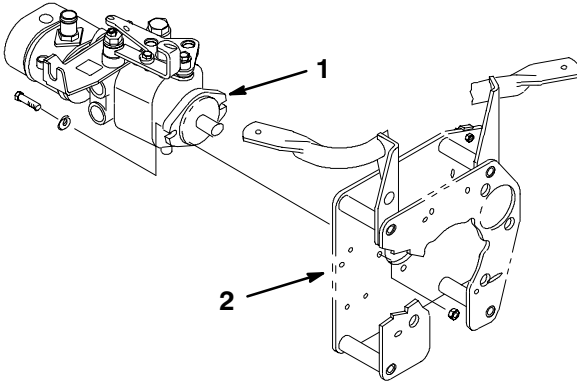

Figure 3
15. Remove left capscrew, washer and nut securing pump flange to backing plate (Fig. 3).
16. Install new M10 x 1.75 x 40 capscrew, washer and nut (Fig. 3). Tighten securely.
17. Remove right capscrew, washer and nut securing pump flange to backing plate (Fig. 3).
18. Install new M10 x 1.75 x 40 capscrew, washer and nut (Fig. 3). Tighten securely.